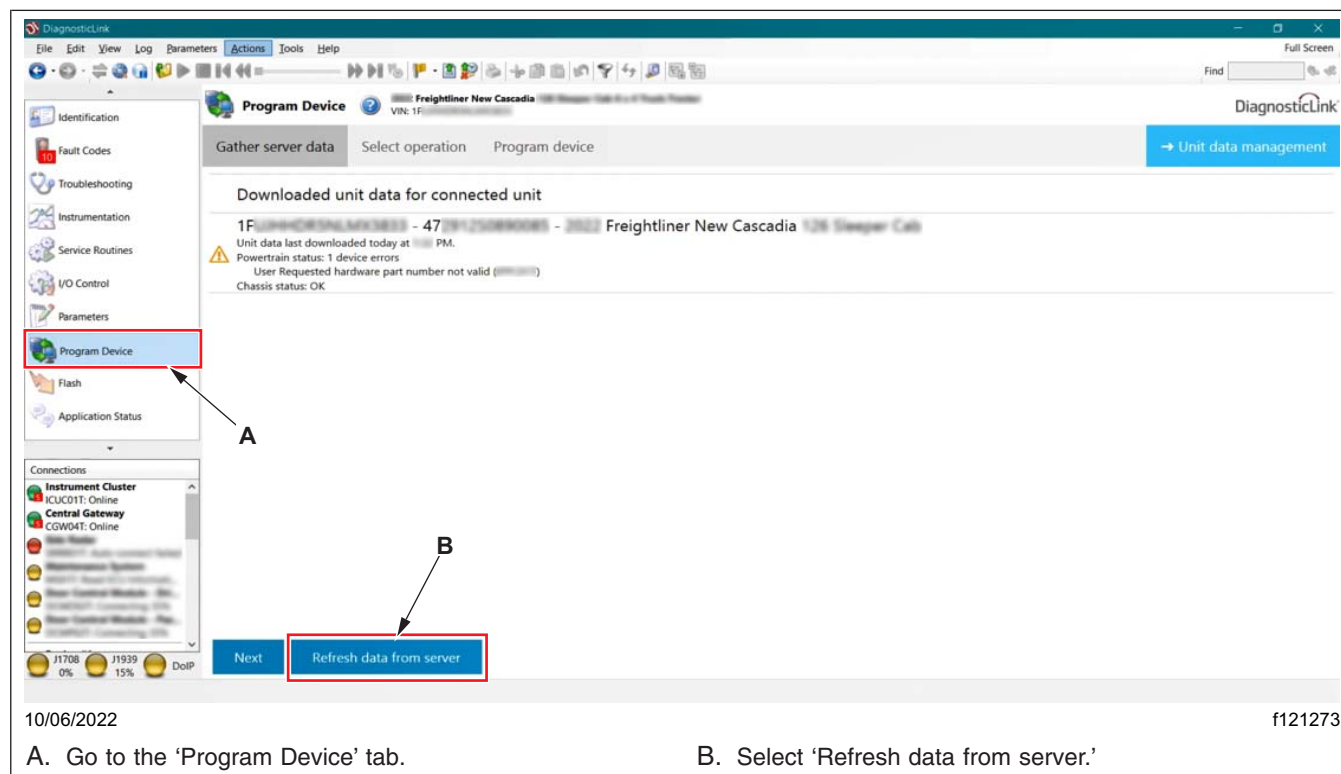

Fig. 13, Refreshing the Data from the Server
19. Go to the 'Program Device' tab, then select 'Refresh data from server.' See Fig. 13.